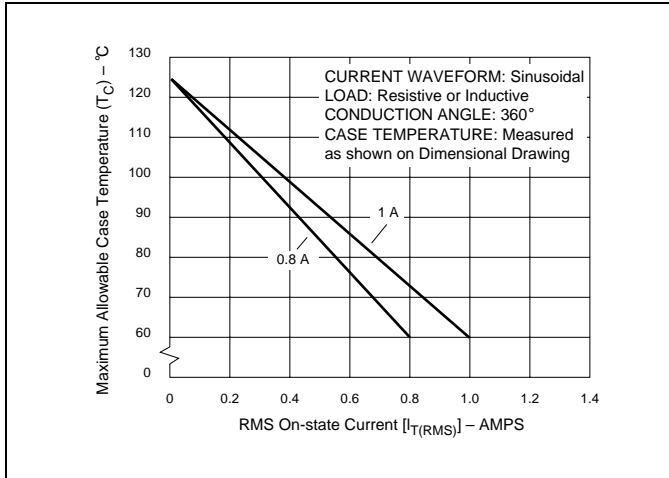

Figure E2.1 Maximum Allowable Case Temperature versus On-state Current (0.8 A and 1 A)
- (1) For either polarity of MT2 with reference to MT1 terminal
- (2) For either polarity of gate voltage (V_{GT}) with reference to MT1 terminal
- (3) See Gate Characteristics and Definition of Quadrants.
- (4) See Figure E2.1 through Figure E2.7 for current rating at specific operating temperature.
- (11) See package outlines for lead form configurations. When ordering special lead forming, add type number as suffix to part number.
- (12) Initial on-state current = 200 mA dc for 0.8 A to 10 A devices, 400 mA dc for 15 A to 35 A devices
- (13) See Figure E2.1 through Figure E2.6 for maximum allowable case temperature at maximum rated current.
- (14) Pulse width $\leq 10 \mu s$; $I_{GT} \leq I_{GTM}$
- (15) $R_L = 60 \Omega$ for 0.8 A to 10 A triacs; $R_L = 30 \Omega$ for 15 A to 35 A triacs
- (16) $T_C = T_J$ for test conditions in off state
- (17) $I_{GT} = 300$ mA for 25 A and 35 A devices
- (18) Quadrants I, II, III only
- (19) Minimum non-trigger V_{GT} at 125 °C is 0.2 V for all except 50 mA MAX QIV devices which are 0.2 V at 110 °C.